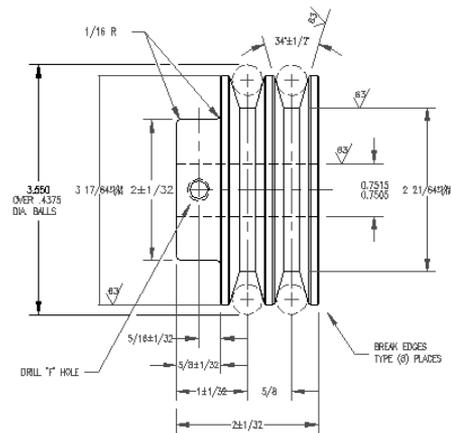

Figure 14-28: The pulleys with two leaders.
- Save your drawing. It should look like Figure 14-28.